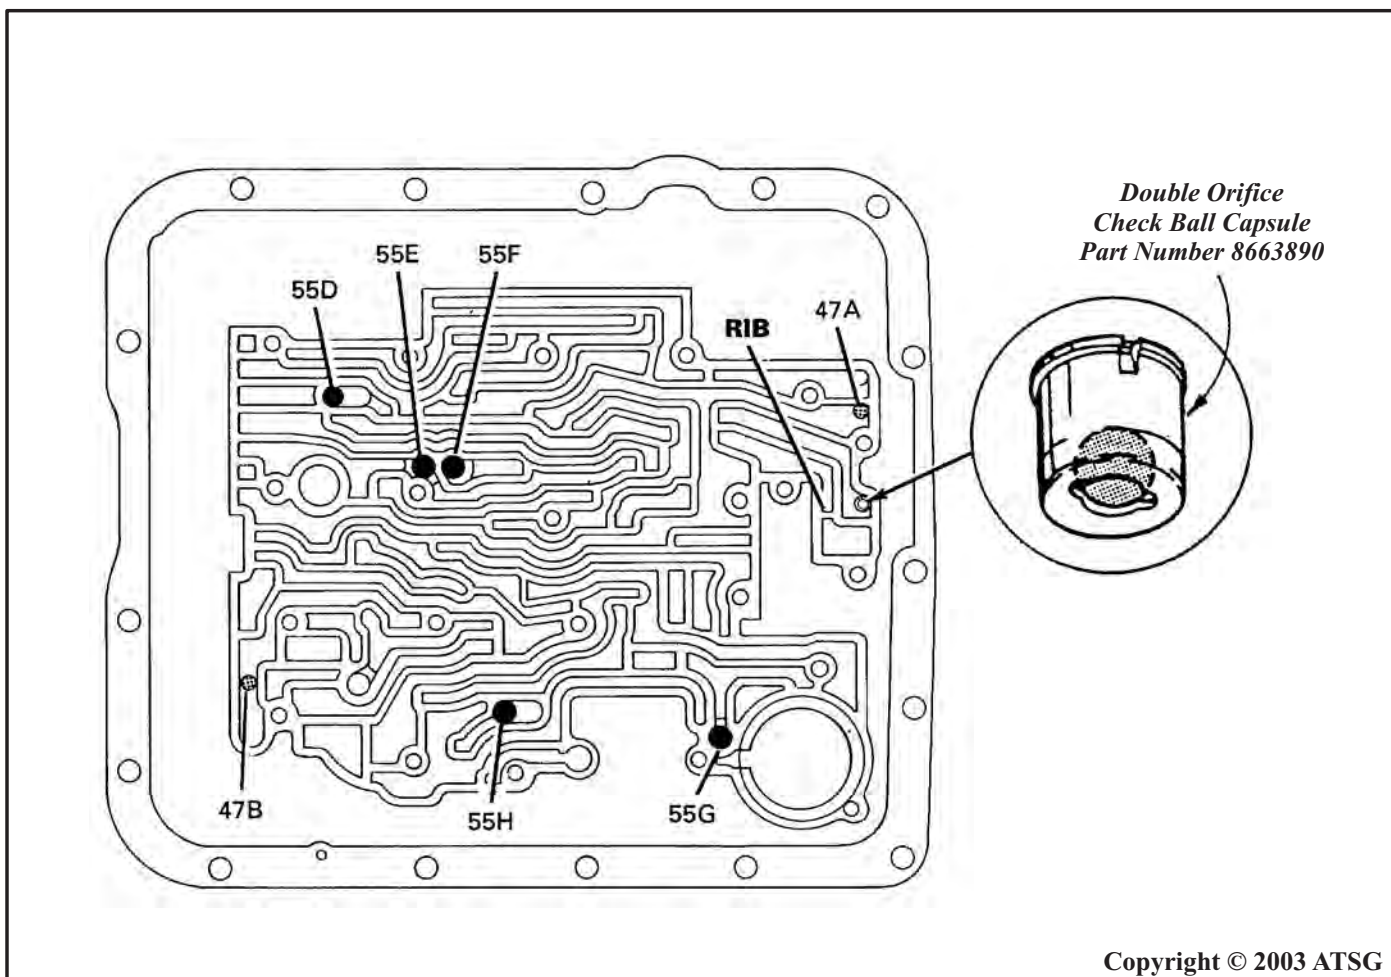

Figure 43
CHANGE: Beginning on February 9, (Julian Date 040) 1987, there was a double orificed ball capsule added to the Low/Reverse passage in rear of case, as shown in Figure 43. This capsule was part of a Reverse apply package that was implemented at the same time.
- (1) ORIFICED CHECKBALL CAPSULE - Added to the low/reverse passage at the rear of the case in the location shown in Figure 43, which allows for both a controlled apply and a rapid release of the Low/Reverse clutch.
- (6) ORIFICED CHECKBALL CAPSULE - Added to the low/reverse passage at the rear of the case in the location shown in Figure 43, which allows for both a controlled apply and a rapid release of the Low/Reverse clutch.